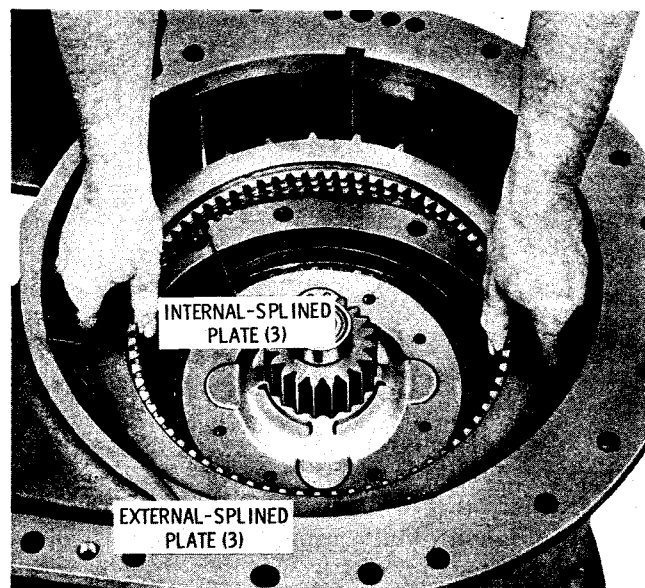

Fig. 5-69. Removing intermediate-range clutch plates S1614
(8) Remove six intermediate-range clutch plates (fig. 5-69).